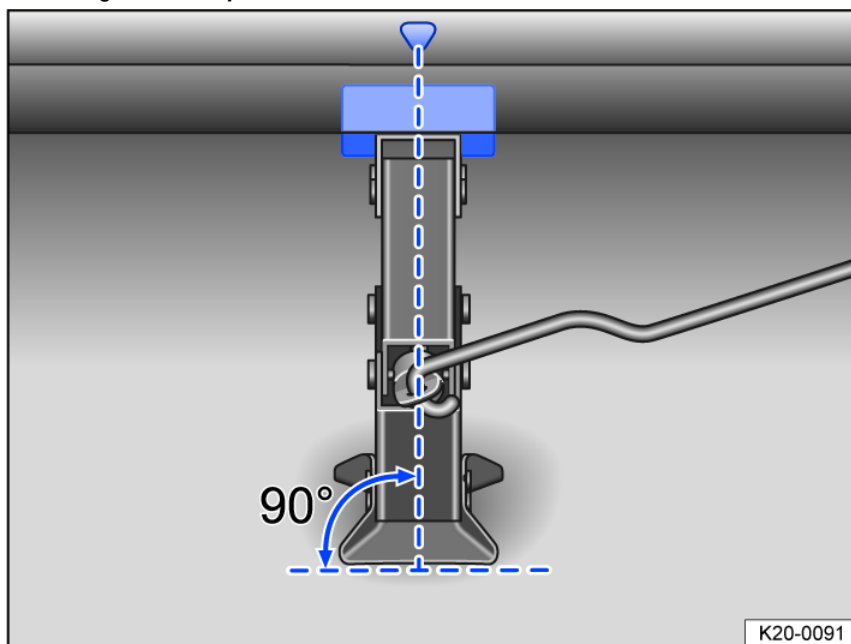

Fig. 174 Correct jack setup.
12. Make sure the entire base of the jack is seated securely on the ground and that the base of the jack is located exactly directly below the lift point *fig. 174* and *fig. 175*.